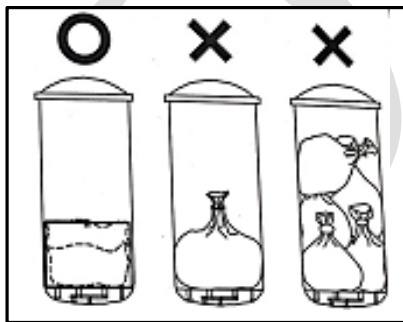

Fig.9
- Never put a disposable film bag directly into chamber. Put single pack of bag in stainless wire basket. (fig.9)